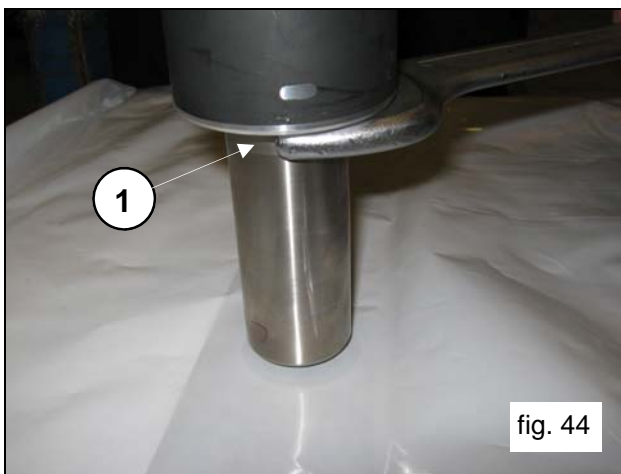
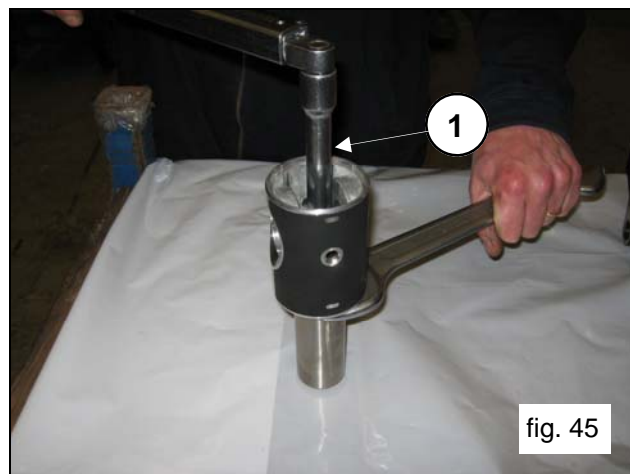

fig. 44
fig. 45
Lock in the rod in correspondence with the two planes with a 36 fork spanner (pos.①, fig.44) and proceed with calibration with a torque wrench (pos.①, fig.45) as indicated in paragraph 3 “Screw tightening calibration”.